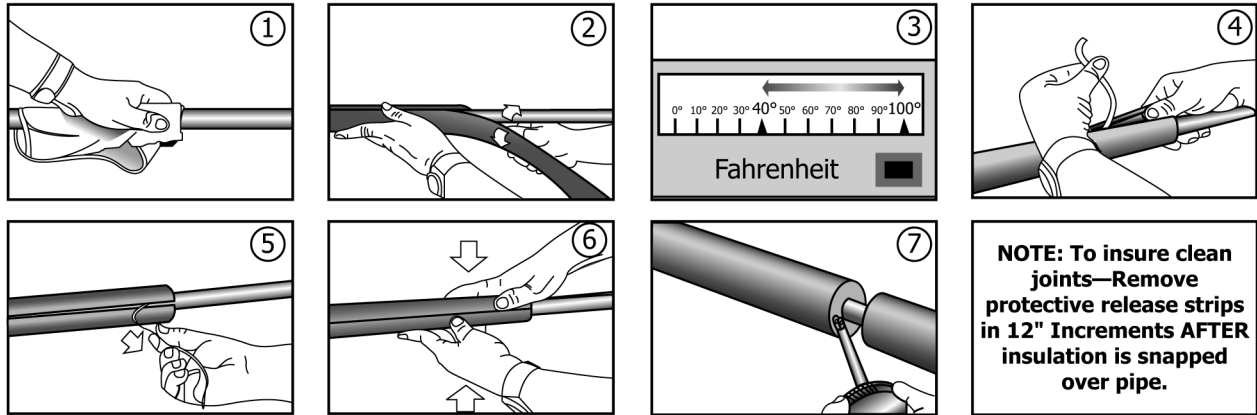

FIG. 4 Apply Pre-Slit/Pre-Glued Insulation to Straight Pipe
10.1.2 Use pre-slit/pre-glued insulation. (Insulation pre-slit with factory applied pressure sensitive adhesive (PSA)). See Fig. 4. Be sure application temperature and manufacturer’s installation temperature recommendations are in accordance adhered to.